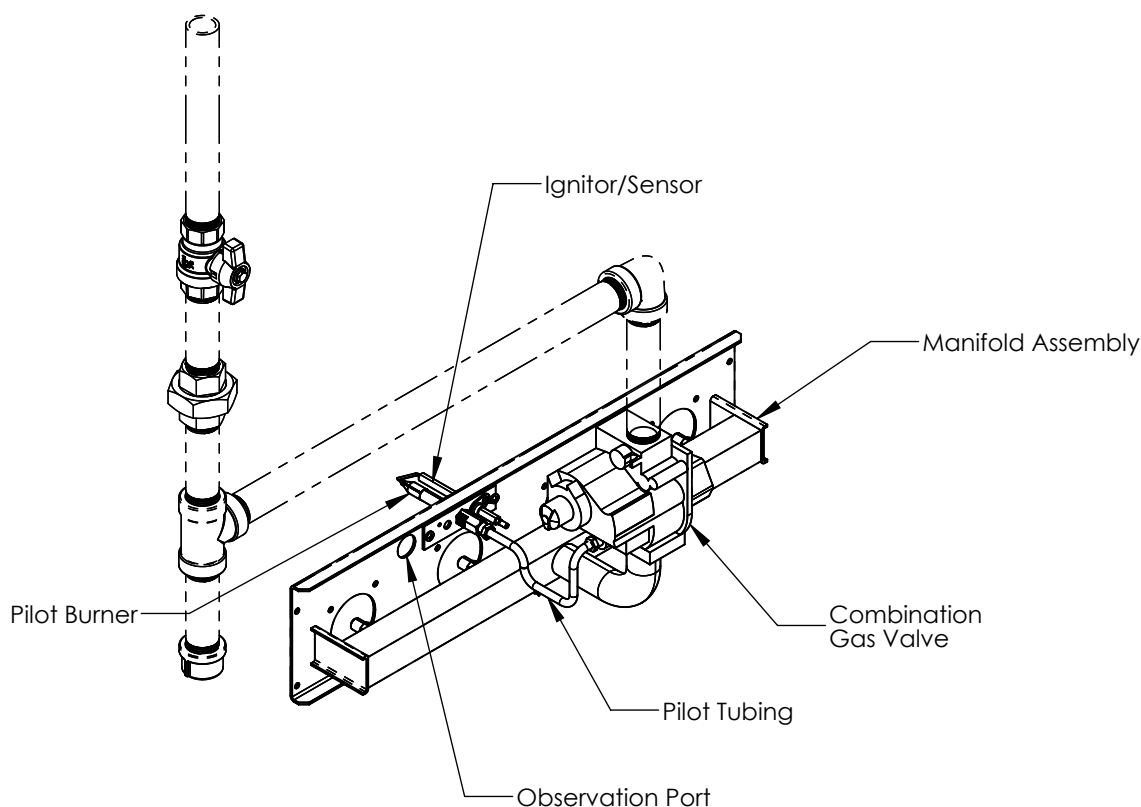

Figure 8-3: Gas Manifold and Control Assembly
A. See Figure 8-3 for gas manifold and control assembly.